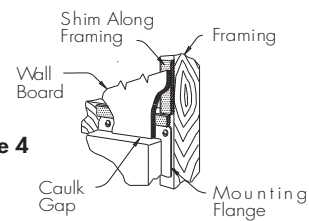

Figure 4
8. Finish wall board as detailed in Figure 4.